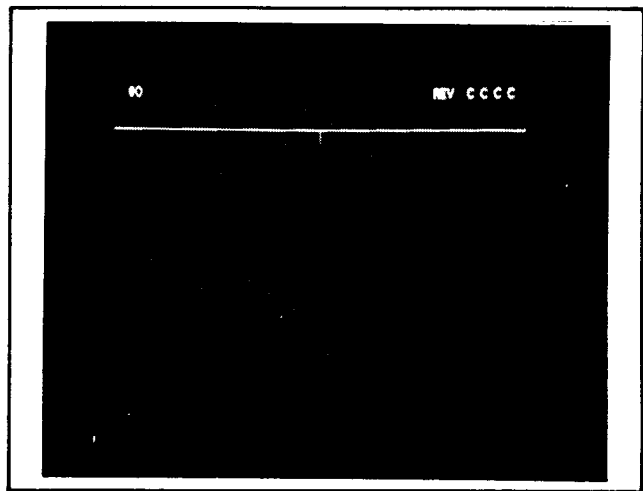

Figure 3. Display Line Adjustment
2. Press and hold in the  GRAT while pressing the  CLEAR/RESET to activate the Display Adjust line at top of screen as shown in Figure 3.